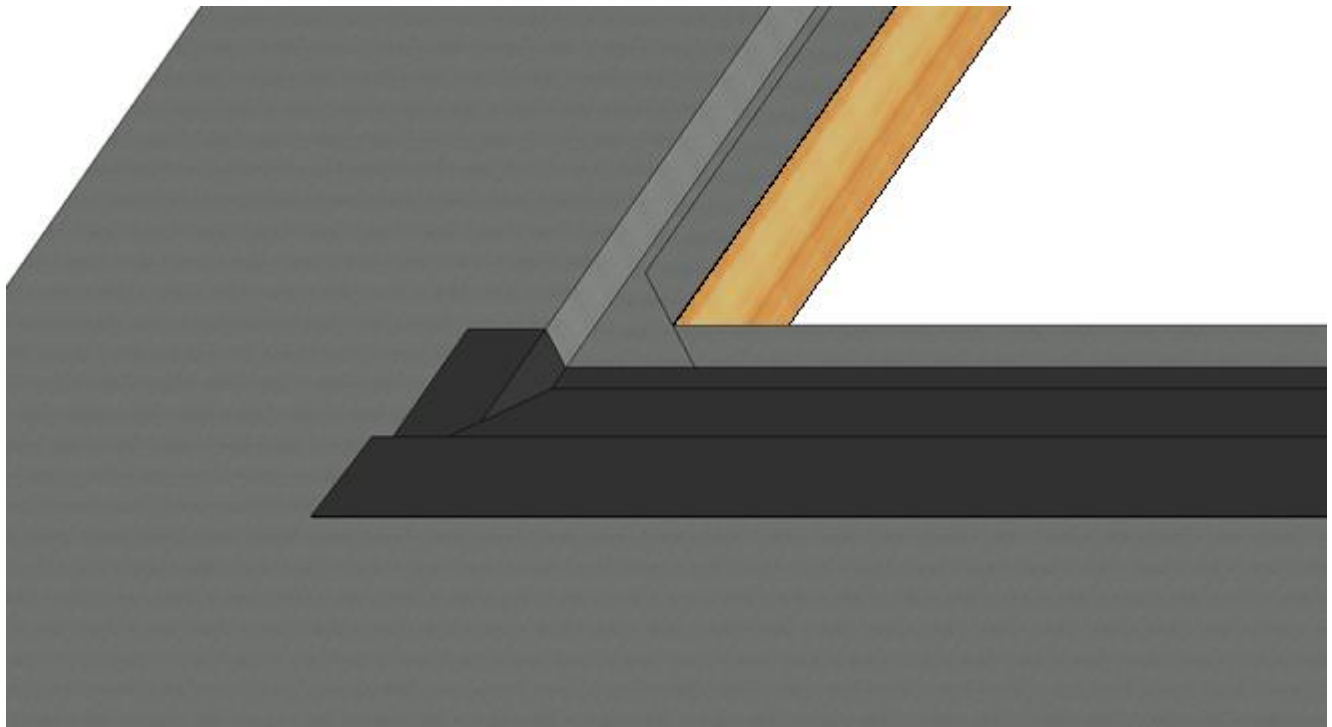

Fig. 3b – Cill flashing detail for sunken installation
- The flashing should be at least 300mm longer than the external width of the product and should be installed centrally – for sunken installations please ensure that the lead extends beyond the sunken detail on either side (fig. 3b)